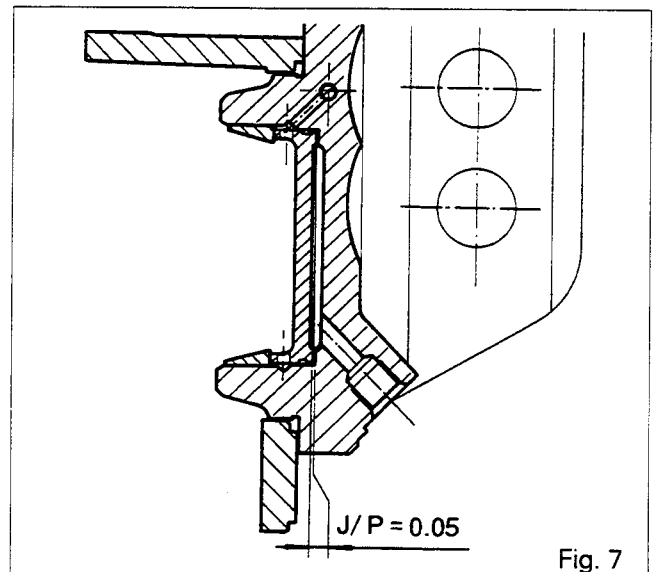

Fig. 7
- Note: If replacing the cup (3), refit the 540/1000 rpm pinions. See section 7B01. Top up the oil of the rear axle housing.**
31. Withdraw the piston (9) from the top link support (10).
32. Remove the shims [11] and the O-ring (12) in order to prepare for shimming J1.
33. Fit the piston (9) (without O-ring) and the cup (8) in the support (10).
34. Lubricate the cup and the bearing cone (7).
35. Fit the pinion (13) in the housing.
37. Carry out shimming (Fig. 7) to obtain :